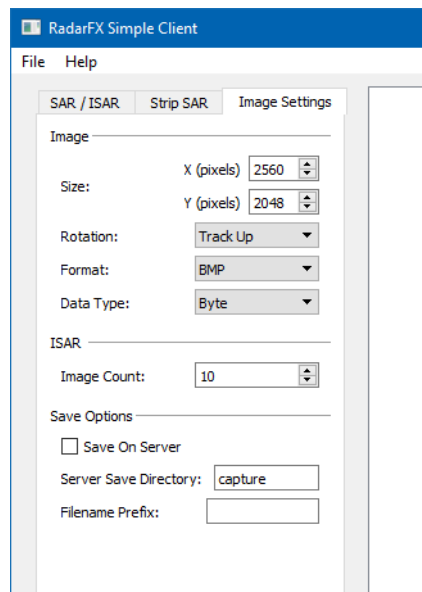

Figure 3-9. Image tab
1. In the Simple Client window, select the Image Settings tab (Figure 3-9).